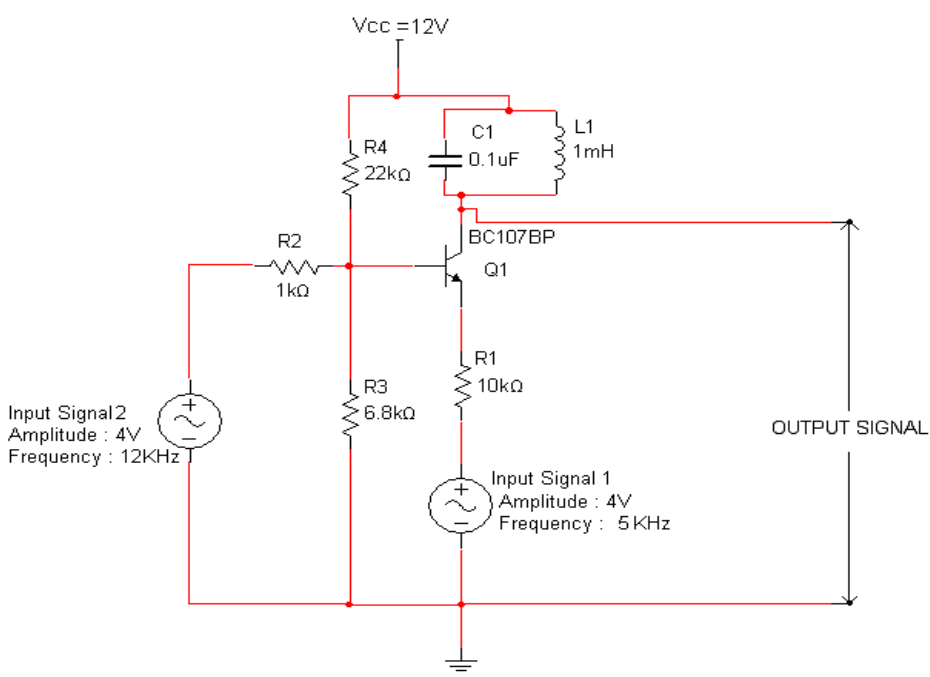

FIG.1. Mixer Circuit
- 1. Connect the circuit as per the circuit diagram as shown in Fig.1. Assume C=0.1μF and calculate value of L1 using  $f = \frac{1}{2\pi\sqrt{L_1C_1}}$  where f=7KHz